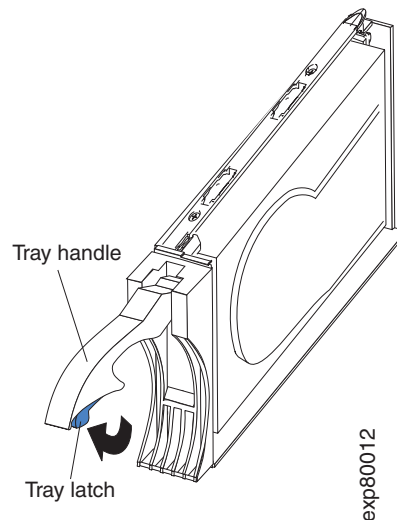

Figure 35. E-DDM FRU handle
- b. Pull the handle on the tray out so that it is in the open position, as shown in Figure 35 on page 72.
- a. Release the latch on the E-DDM FRU by pressing on the inside of the bottom of the tray handle, as shown by the arrow in Figure 35.